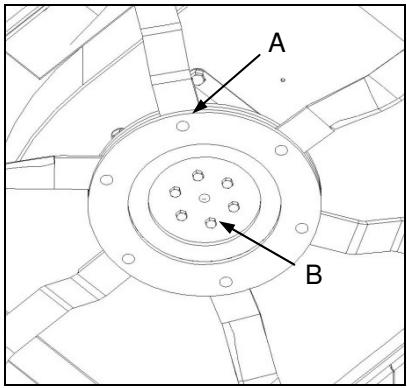
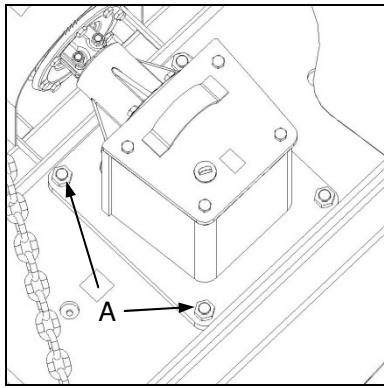
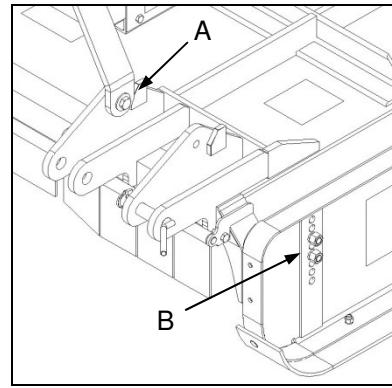

Fig. 1
Fig. 2
Fig. 3
- ✓ Check all fasteners for tightness. This includes special attention to safety-critical fasteners such as blade bolts and nuts (Fig. 1-A), cutting gear mounting bolts (Fig. 1-B), gearbox mounting bolts (Fig. 2-A), topmast mounting and pivot bolts (Fig. 3-A) and side panel retaining bolts (Fig. 3-B).
- ✓ Verseker dat alle hegstuukke vas is. Dit sluit in spesiale aandag aan veiligheidskritieke hegstuukke soos lemboute en -moere (Fig. 1-A), snymeganisme monterboute (Fig. 1-B), ratkas monterboute (Fig. 2-A), topmasmonter- en -spilboute (Fig. 3-A) en sypaneel monterboute (Fig. 3-B).